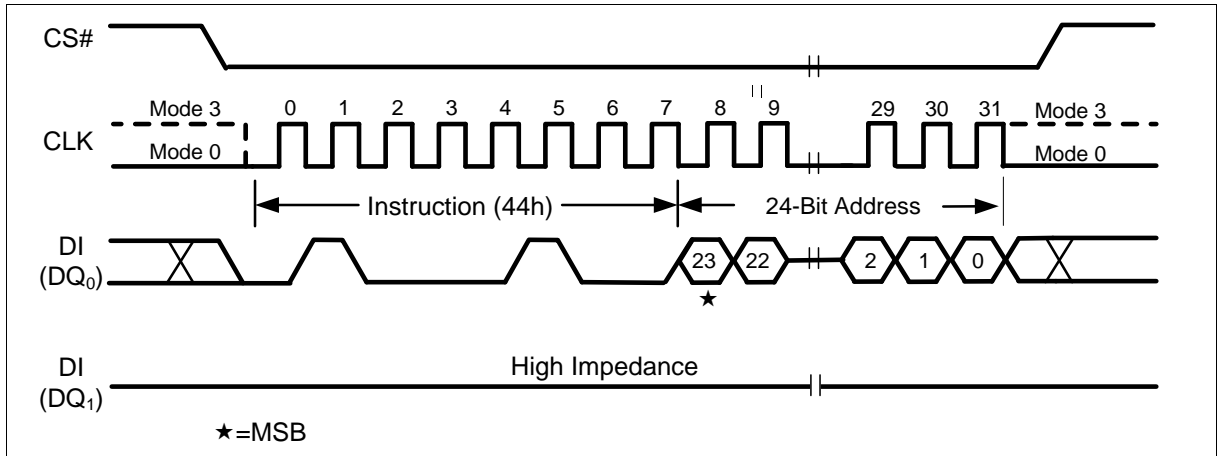

Figure 38 Erase Security Sectors Instruction (SPI Mode)
The Erase Security Sector instruction sequence is shown in Figure 38. The CS# pin must be driven high after the eighth bit of the last byte has been latched. If this is not done the instruction will not be executed. After CS# is driven high, the self-timed Erase Security Sector operation will commence for a time duration of t_{SE} (See “12.6AC Electrical Characteristics”). While the Erase Security Sector cycle is in progress, the Read Status Register instruction may still be accessed for checking the status of the WIP bit. The WIP bit is a 1 during the erase cycle and becomes a 0 when the cycle is finished and the device is ready to accept other instructions again. After the Erase Security Sector cycle has finished the Write Enable Latch (WEL) bit in the Status Register is cleared to 0. The Security Sector Lock Bit (LB) in the Status Register-2 can be used to OTP protect the Security Sectors. Once the LB bit is set to 1, the Security Sector will be permanently locked, Erase Security Sector instruction will be ignored.